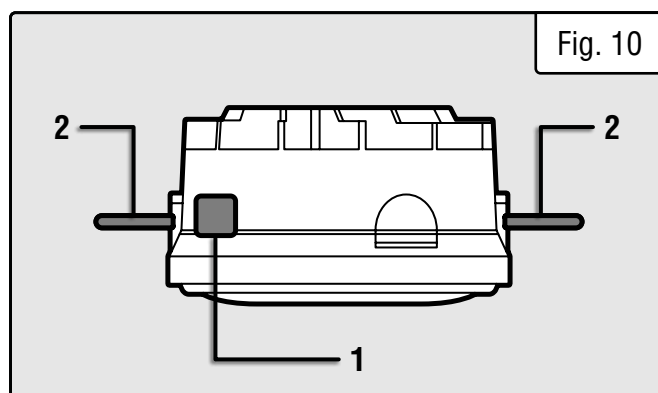

Fig. 10
2. You can also manually feed the string. Press the string feed button (Fig. 10 - 1) on the spool casing and adjust the string (Fig. 10 - 2) to the desired length.